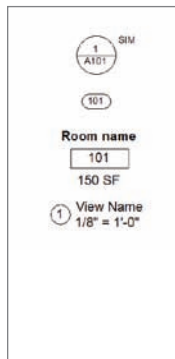

FIGURE 11.48 Populating the legend
8. With the Symbol command still running, place a door tag directly underneath the callout head, as shown in Figure 11.48.
10. Place a View Title (see Figure 11.48).